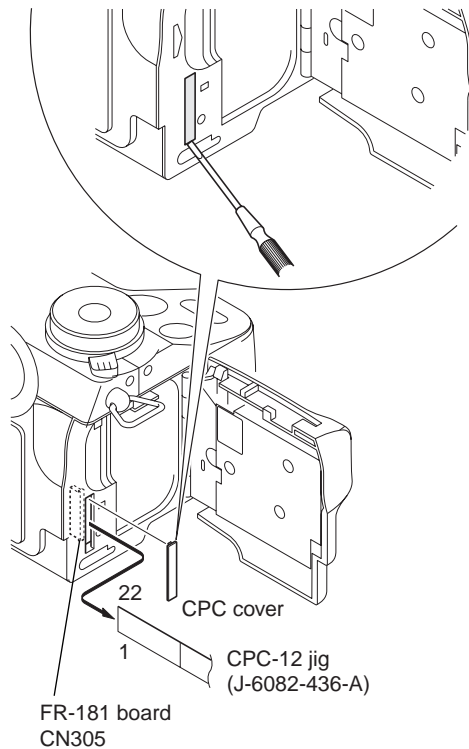

Fig. 5-1-3
- 2) Connect the Adjusting remote commander to the FR-181 board CN305 via CPC-12 jig (J-6082-436-A). (See Fig. 5-1-3)